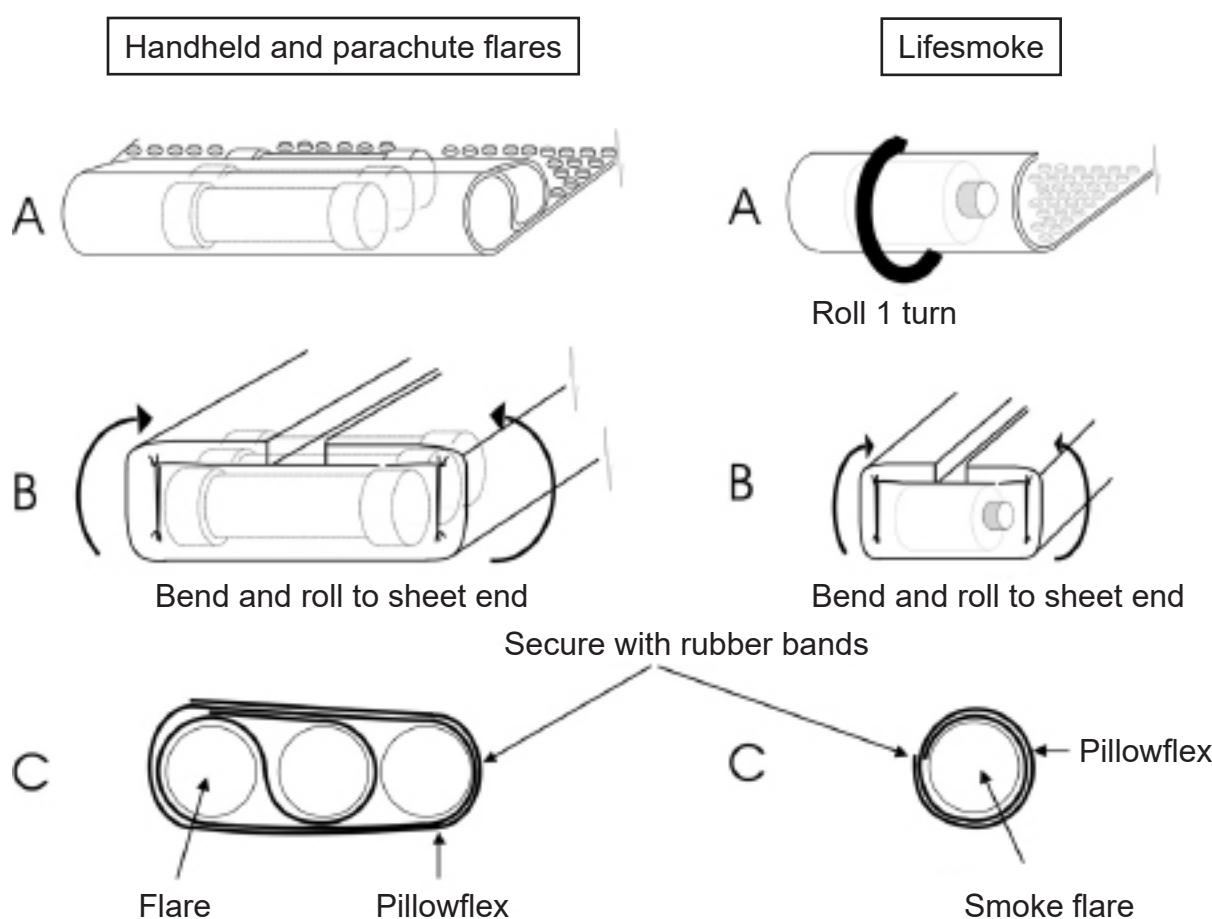

FIGURE 702
2.1.1 For liferaft drop heights of 18 metres and below, use the wrapping method as illustrated in FIGURE 702.